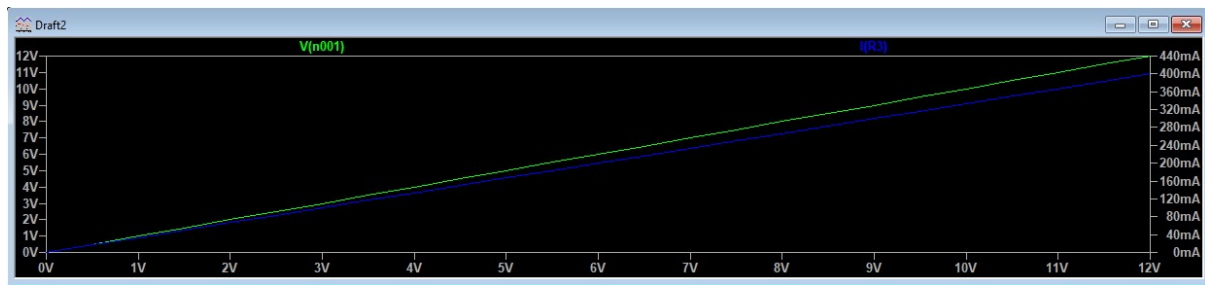

Figure 49: LTspice graph window with current measurement of R3.
- To measure the current through $R3$, click on resistor $R3$. A trace should appear in the graph window named $I(R3)$ as shown in Figure 49. You will see that the voltage and current values of the Y axis are displayed on the left- and right-hand sides respectively.